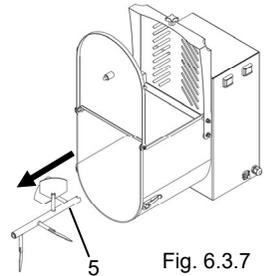

Fig. 6.3.7
- Grip the mixing blade "5" Fig. 6.3.7 and pull to remove.